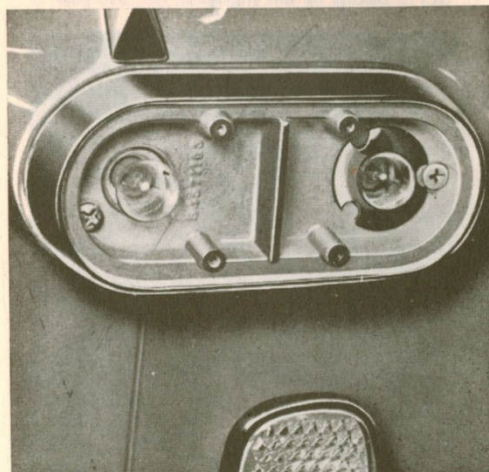

Fig. 10-69. Rear light, glass removed
2. Unscrew the two screws which hold the rear light housing to the body, see Fig. 10-69. The nuts are accessible from inside the luggage compartment.